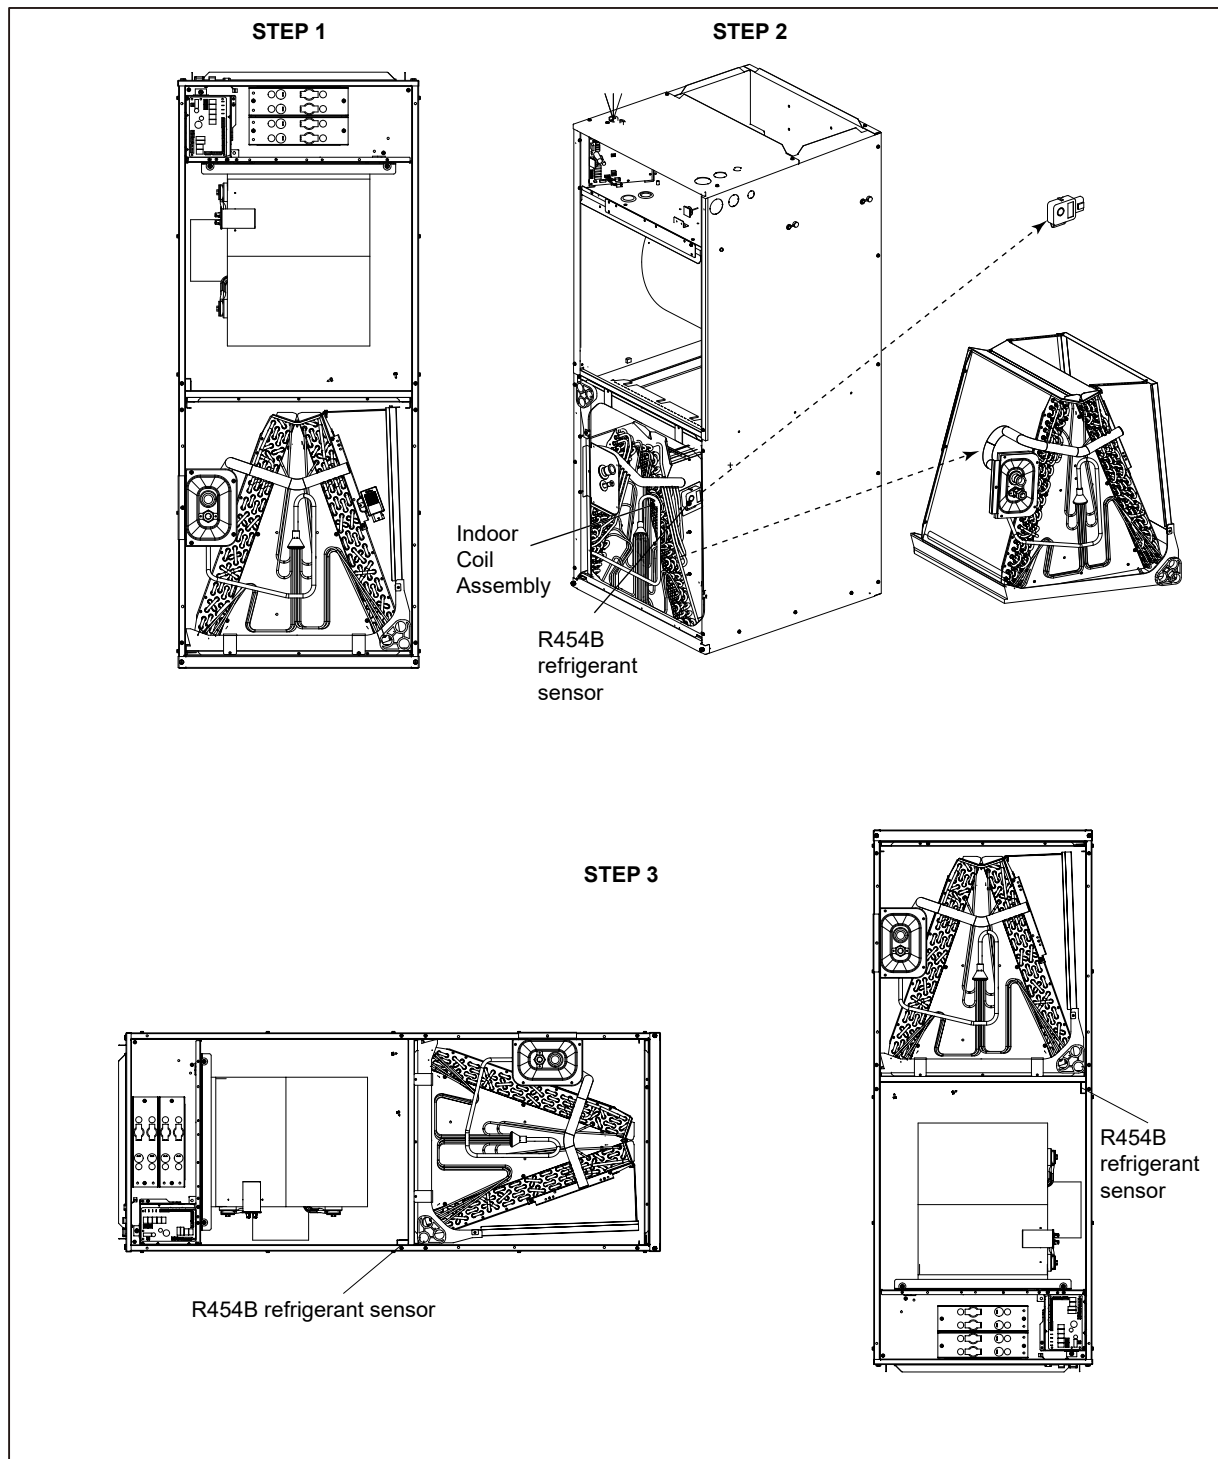

Fig.3-10 Vertical Downflow & Horizontal Left Applications Conversion
4. Reinstall the refrigerant sensor at the location shown in Fig.3-10.
A vertical upflow unit may be converted to horizontal left by removing indoor coil assembly and the refrigerant leak detection sensor. Reinstall the indoor coil and the refrigerant sensor for left hand air supply. See Fig.3-10.
- Reinstall the indoor coil 180° from original position. Ensure the retaining channel is fully engaged with the coil rail. See Fig.3-10 and 3-11.
2. Pull out the coil with refrigerant sensor (Figure 3-10, Step 2).
3. Unscrew and remove the refrigerant sensor and housing from the evaporator coil. Then place and screw in the refrigerant sensor housing at the sensor position shown in the Figure 3-10.
4. Replace the coil in the correct orientation and secure in place. Plug the refrigerant sensor wire back to the controlboard(Figure 3-10, Step 3).